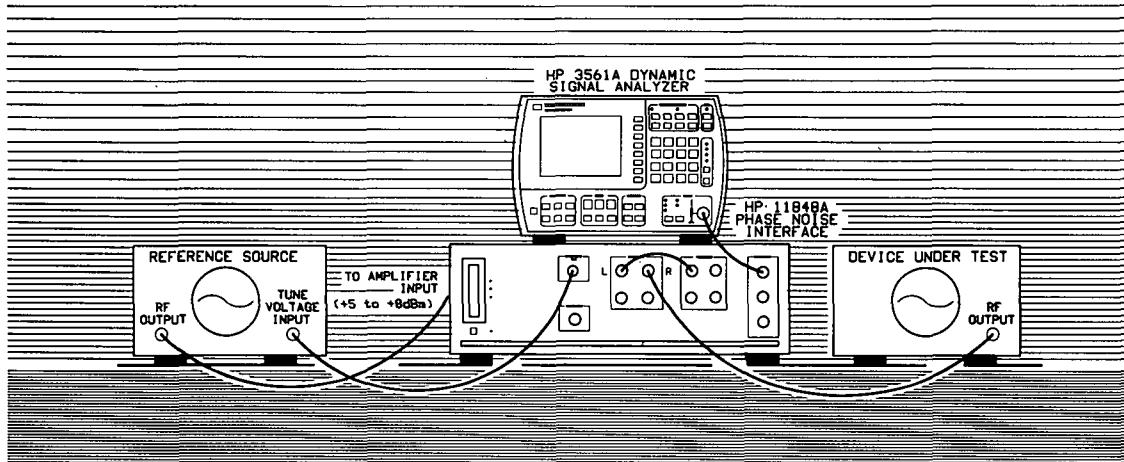

Figure 3-6. Setup Diagram for the Stable RF Oscillator Measurement Example.
- 3. When the Connect Diagram appears on the HP 3048A's display, connect the signal paths as shown in Figure 3-6. (Figure 3-6 differs from the Connect Diagram shown on the HP 3048A's display.) Table 3-4 provides setup considerations that will help you ensure that your measurement results will be valid.**